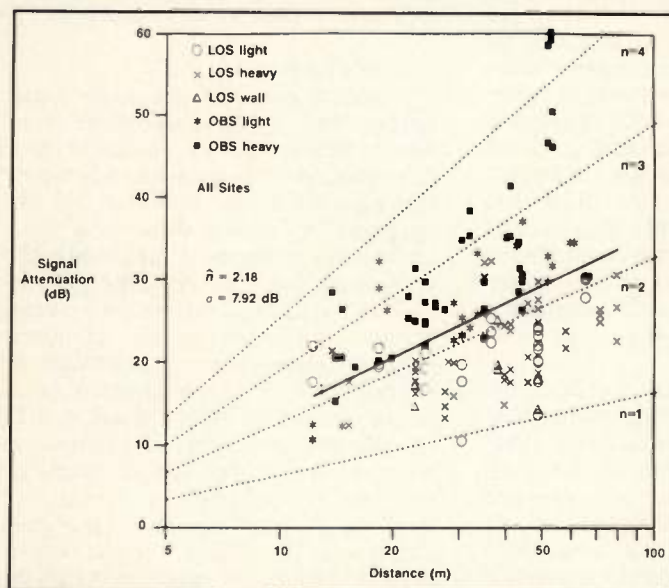

Figure 3. Large scale signal attenuation at all measurement sites.
where d is the distance between transmitter and receiver in meters and n is the mean path loss exponent found by using a linear least squares fit to a scatter plot of measured path loss against measured distance (17). This model has also been found to hold at UHF for channels inside and around houses (2). Figure 3 shows the received